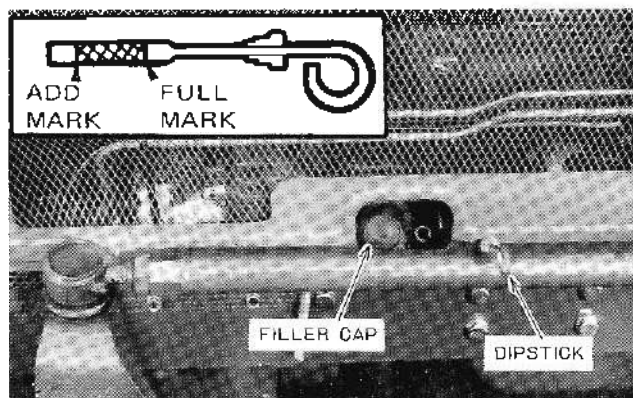

Figure 35 — Engine Oil Level Dipstick and Filler Cap
1. With the tractor standing level, and after the engine has been stopped for a period of time, check the oil level with the dipstick, Figure 35.